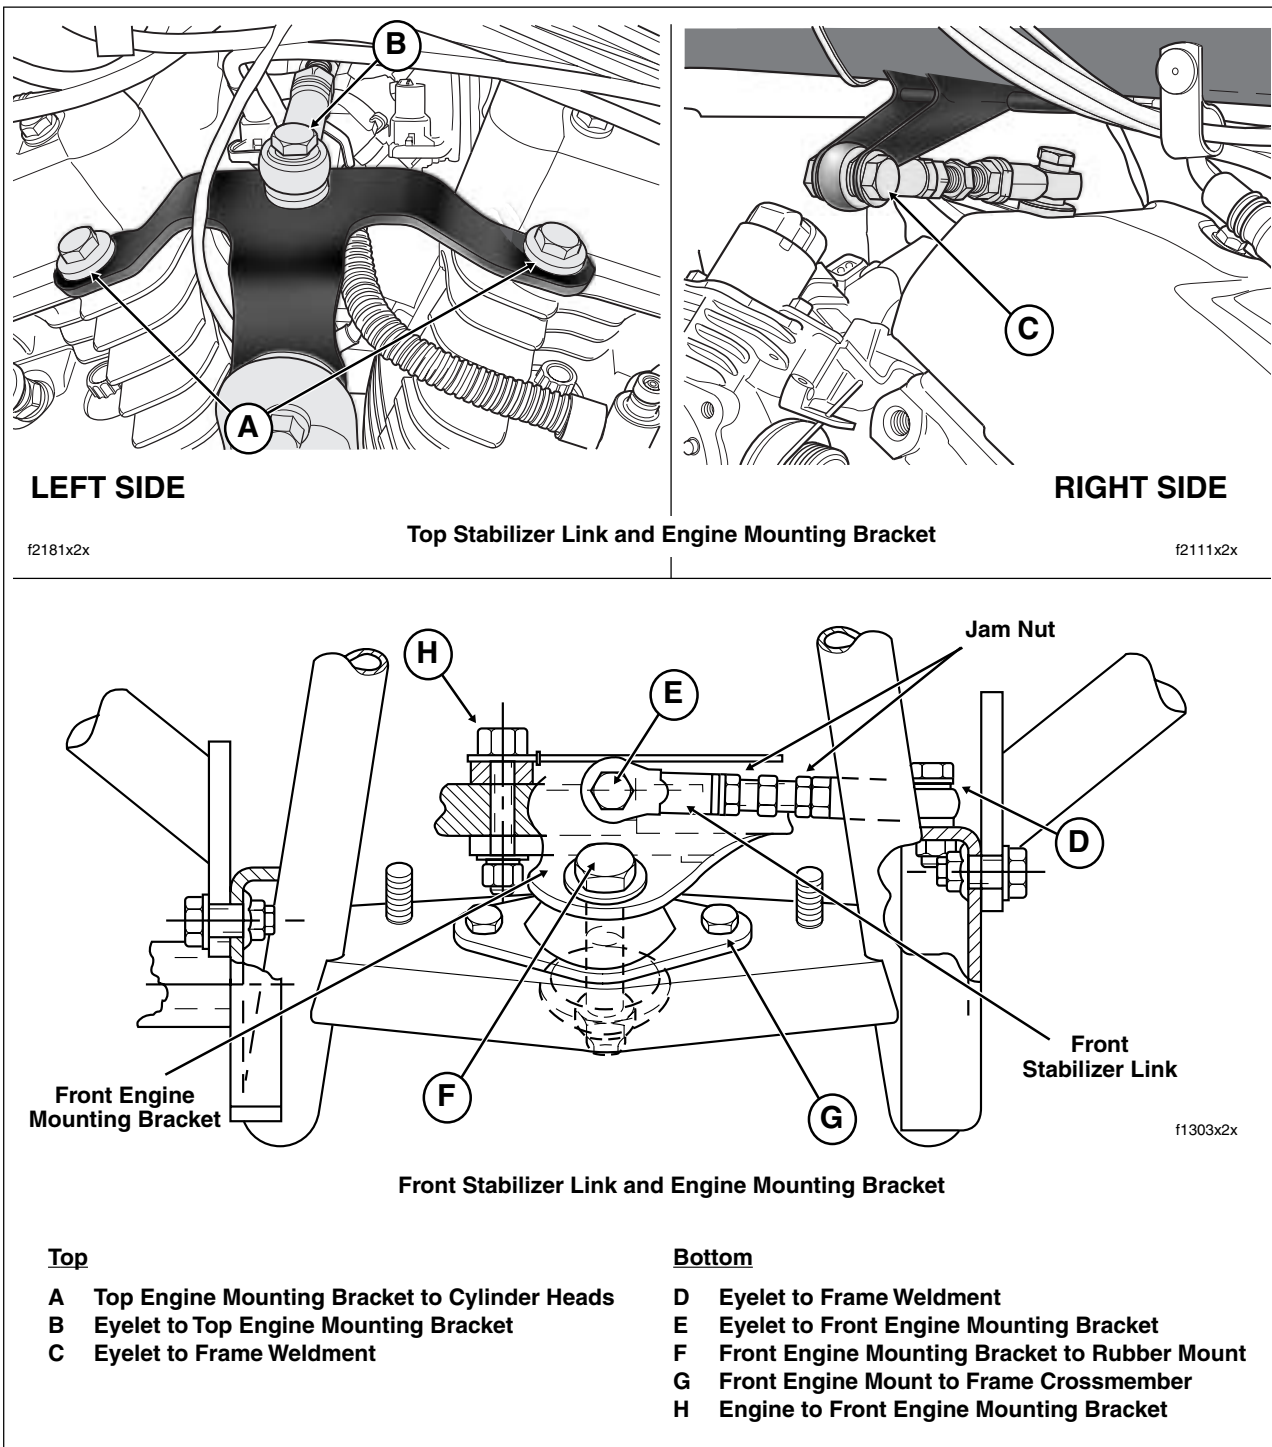

Figure 2-37. Engine Mounting Bracket Bolts
- a. On left side of motorcycle, tighten the two top engine mounting bracket to front and rear cylinder head bolts to 35-40 ft-lbs (48-54 Nm). See A of Figure 2-37.
- b. Moving to right side of motorcycle, tighten the top stabilizer link eyelet to frame weldment bolt to 18-22 ft-lbs (24-30 Nm). See C of Figure 2-37.
- d. Remove the top stabilizer link eyelet to top engine mounting bracket bolt. See B of Figure 2-37.
- b. Tighten two engine to front engine mounting bracket bolts to 33-38 ft-lbs (45-52 Nm). See H of Figure 2-37.
- c. Tighten front stabilizer link eyelet bolt to block on front engine mounting bracket to 18-22 ft-lbs (24-30 Nm). See E of Figure 2-37.
- e. Remove front stabilizer link eyelet to frame weldment bolt. See D of Figure 2-37.
- f. Remove the center front engine mounting bracket to rubber mount bolt (with washers and nut). See F of Figure 2-37.
- a. Install bolts removed under steps 7(d) and 8(e), and using the center hex to maintain equal thread engagement at both eyelets, adjust stabilizer links so that bolts thread in without any stress or engine movement. See B and D of Figure 2-37.
- Tighten the two front engine mount to frame cross-member bolts to 15-20 ft-lbs (20-27 Nm). See G of Figure 2-37.
- Install center front engine mounting bracket to rubber mount bolt (with washers and nut) and tighten to 15-20 ft-lbs (20-27 Nm). See F of Figure 2-37.
- Loosen the two front engine mount to frame cross-member bolts. See G of Figure 2-37.
- After the mount is centered, tighten the two front engine mount to frame crossmember bolts to 15-20 ft-lbs (20-27 Nm). See G of Figure 2-37.
- c. Tighten front stabilizer link eyelet to frame weldment bolt to 18-22 ft-lbs (24-30 Nm). See D of Figure 2-37.
- d. Tighten front stabilizer link eyelet bolt to block on front engine mounting bracket to 18-22 ft-lbs (24-30 Nm). See E of Figure 2-37.
- e. Remove the center front engine mounting bracket to rubber mount bolt (with washers and nut). See F of Figure 2-37.
- b. Tighten the stabilizer link eyelet to top engine mounting bracket bolt to 18-22 ft-lbs (24-30 Nm). See B of Figure 2-37.
- a. Loosen the top stabilizer link eyelet to top engine mounting bracket bolt. See B of Figure 2-37. Verify that bolt is unloaded and threads freely in and out of the mounting bracket hole. If necessary, loosen jam nuts and adjust stabilizer link to a achieve a free state. Tighten bolt to 18-22 ft-lbs (24-30 Nm) and then tighten jam nuts before rechecking vertical alignment.